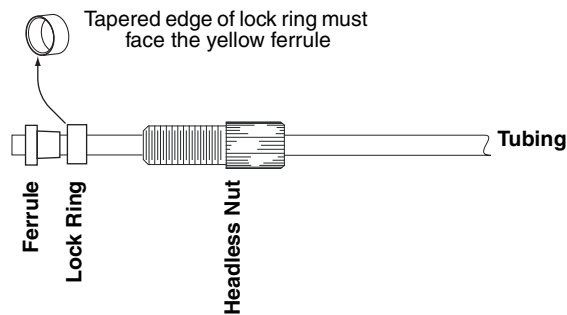

Figure 2-7 Tubing preparation
5. Prepare the tubing as shown in Figure 2-7.